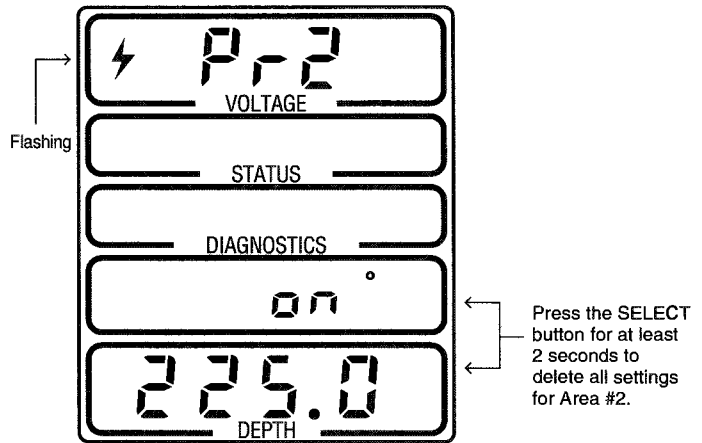

Figure 2.86
2. Press the SELECT button to advance to the second programmed area identified as “Pr2” which is displayed in figure 2.86.
Figure 2.86 illustrates that the “on” or start angle for programmed area #2 is set at 225 degrees. To delete both the on (start) and off (stop) angles for area #2, press the SELECT button for at least 2 seconds at this point.